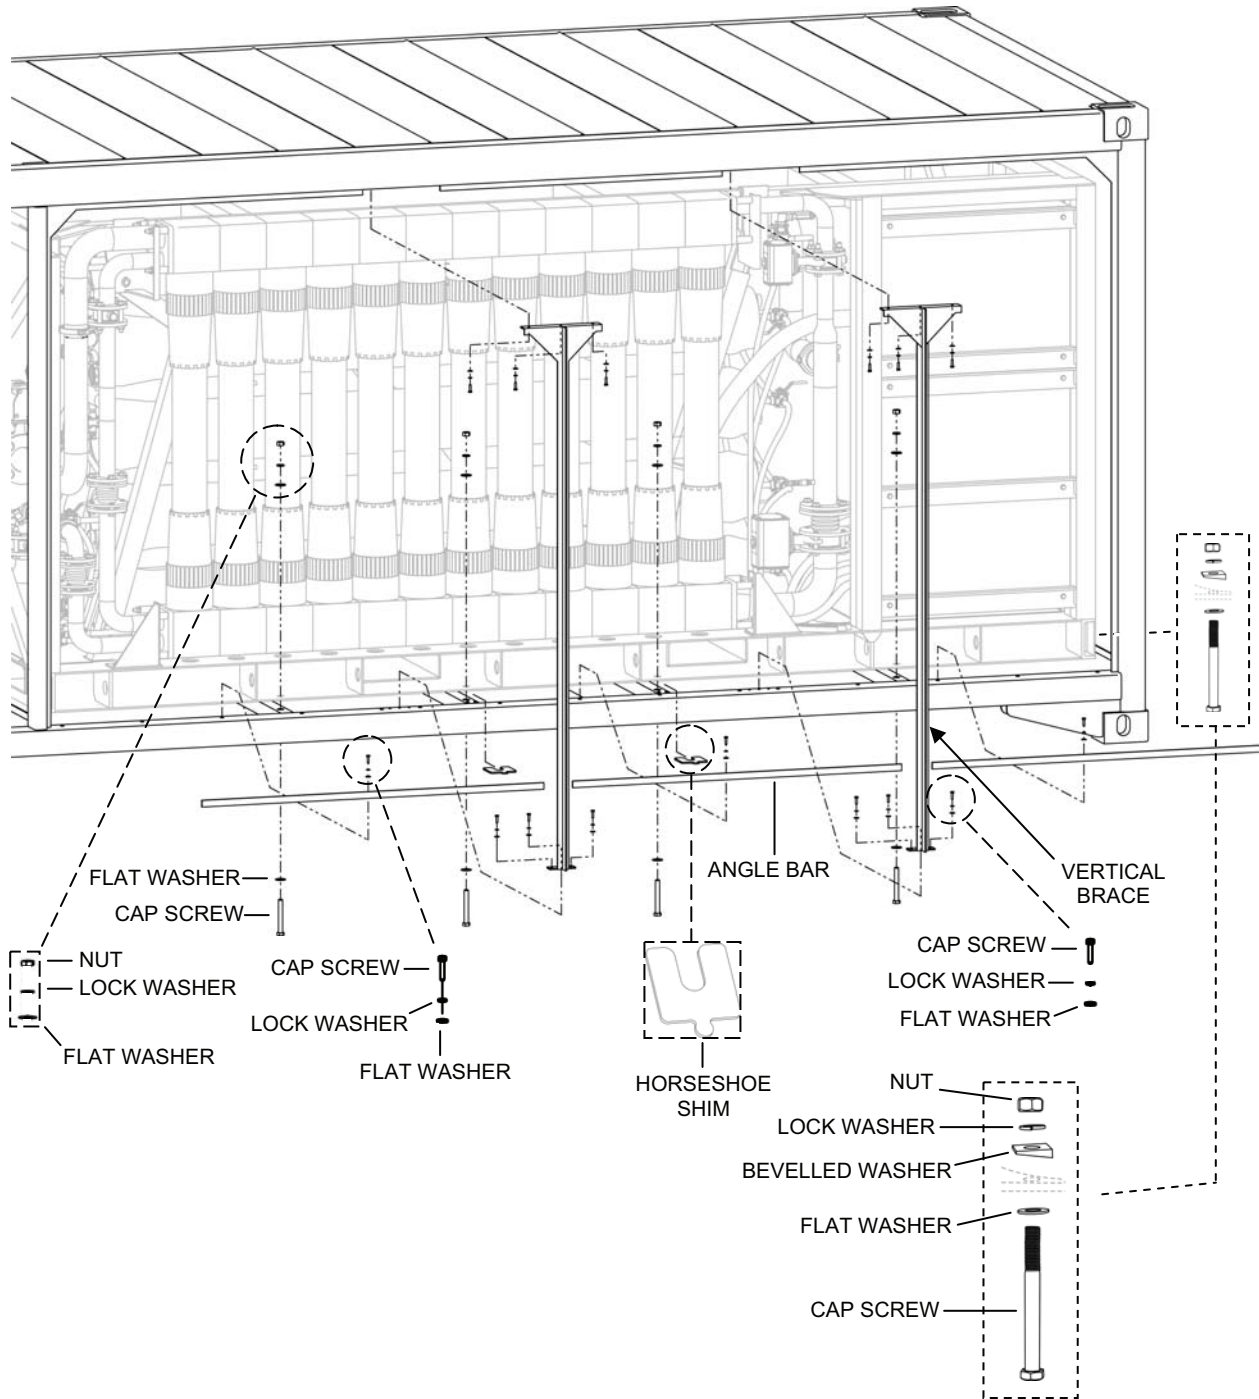

Figure 1. A-TWPS Removal from the Flat Rack.
1. Remove the TWPS Unit from the flat rack as follows (see Figure 1):
2. Reinstall the TWPS Unit into the flat rack as follows (see Figure 1):